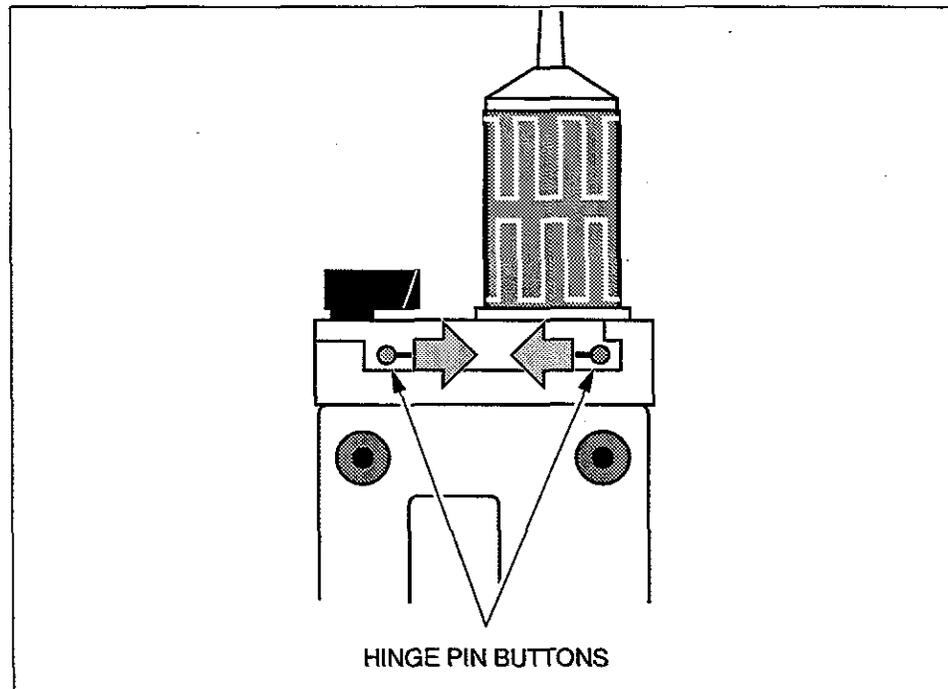

Figure 2-6
1. Retract both hinge pins into the front plate by squeezing the hinge pin buttons together. See Figure 2-6.